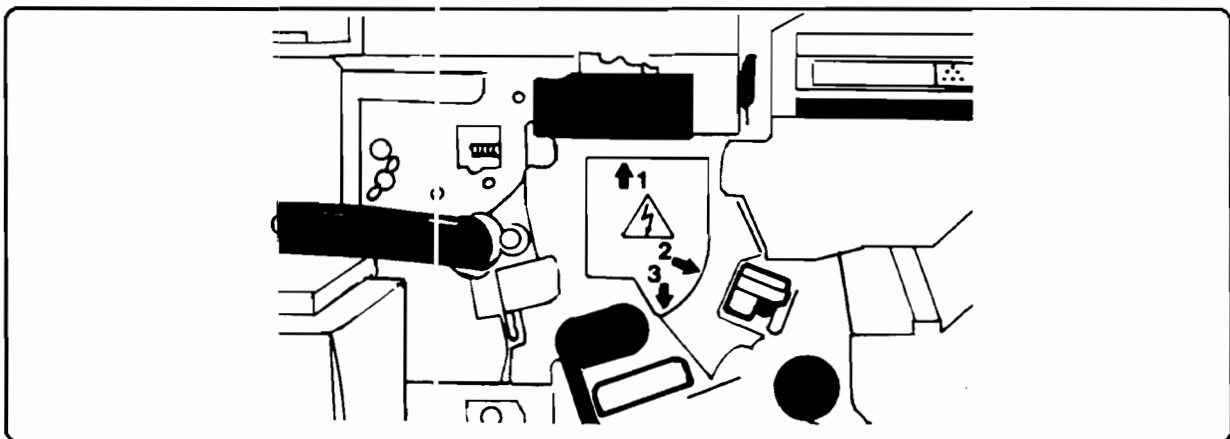

Figure 3. Corona Assembly Locations
2. Locate the label pointing to the three coronas (see Figure 3).
The primary corona assembly is located at the position marked "1" on the inside front of the printer (shown in Figure 3).